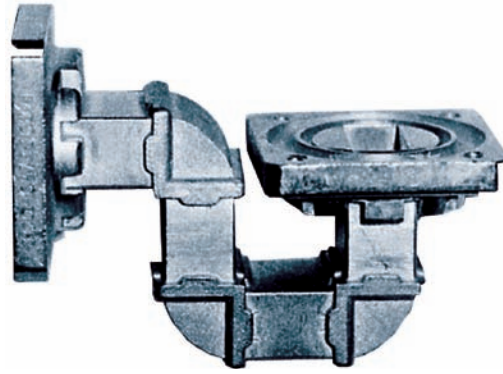

FIGURE 5-7 Furnace brazed part. Courtesy of Larry Jeffus.
- a. Parts can be preassembled and dipped or furnace soldered or brazed in large quantities, **Figure 5-7**.